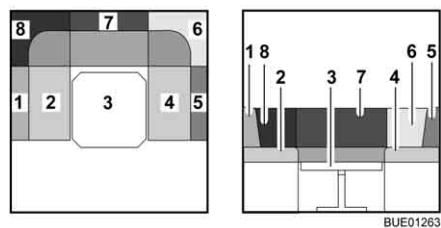

Fig. 76 During conversion
- Remove the back cushions (Fig. 76,6, 7 and 8) and lay them aside.
- Pull the seat cushions (Fig. 76,2 and 4) into the centre of the table.